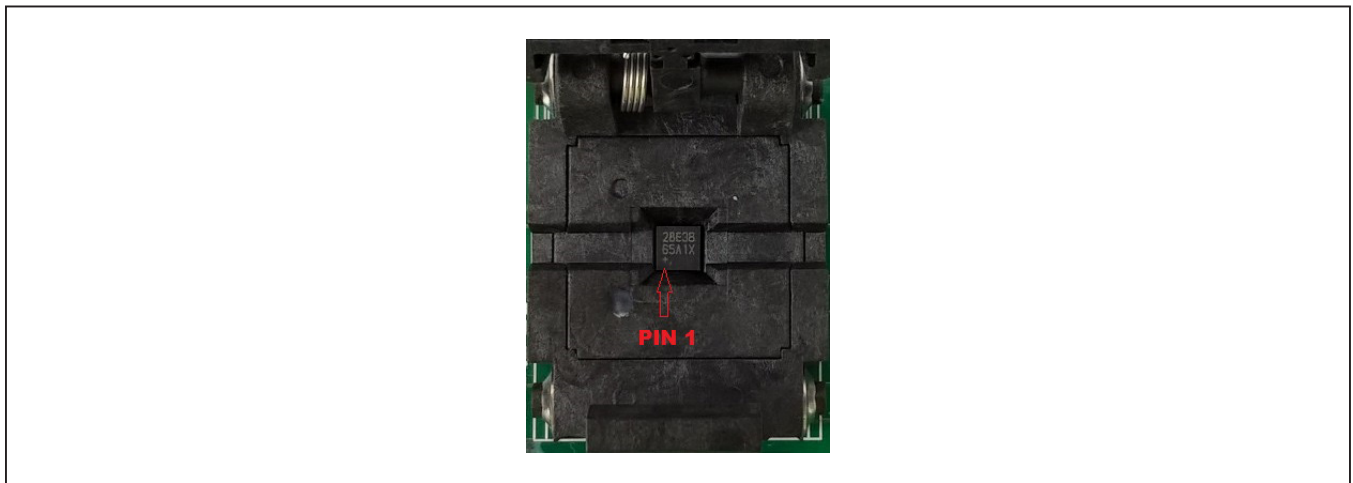

Figure 9. Orientation of the DS28E38 and DS2476 in the Burn-In Socket
- a) (Optional—Perform only if using the coprocessor): Open the 1st socket and insert a DS2476 into one of the cavities, as shown in Figure 9.
- b) Open the 2nd socket and insert a DS28E38 into one of the cavities, per the same orientation shown in Figure 9.